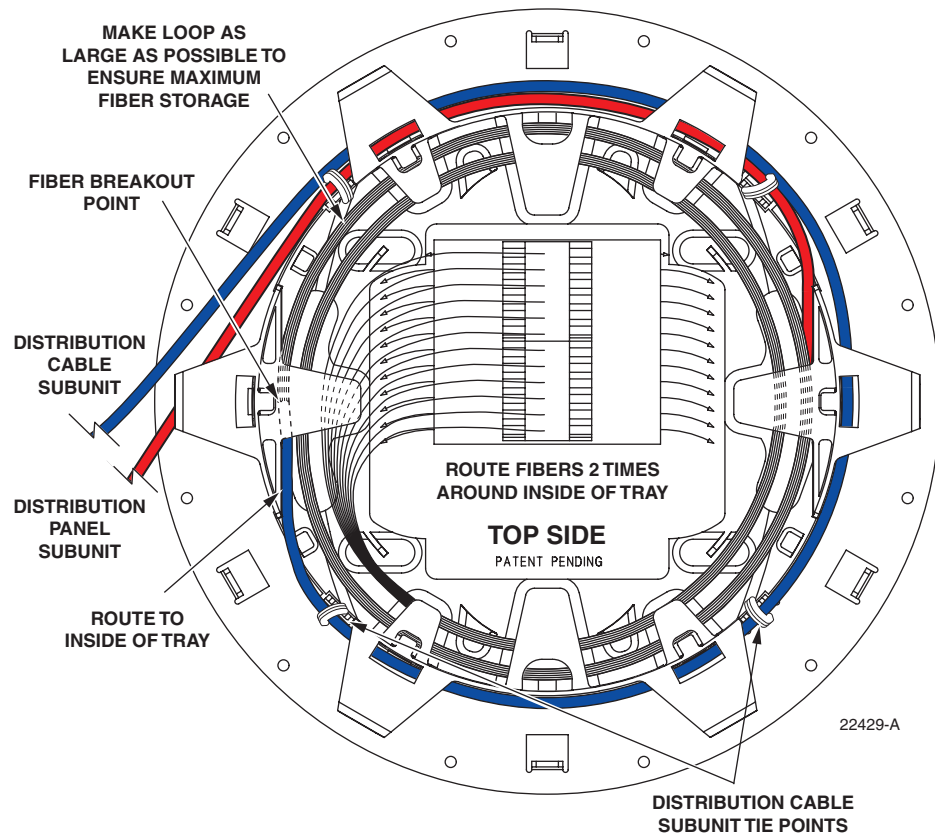

Figure 38. Installing Distribution Cable Subunit In Splice Wheel
12. Secure the distribution cable subunit to the splice wheel at the points specified in Figure 38.
13. Adjust the distribution cable subunit so the fiber breakout is positioned at the specified point (see Figure 38).